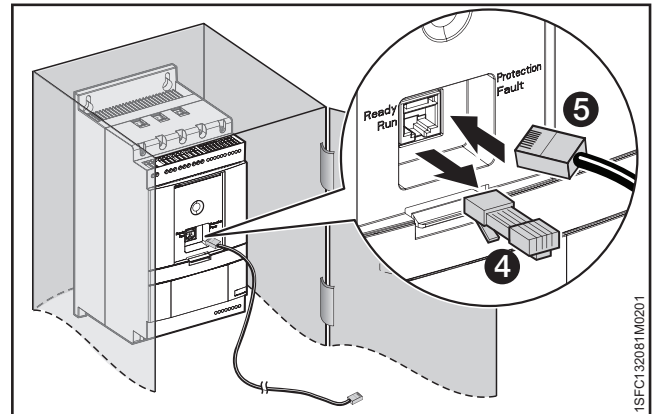

Figure 4.10
3. Remove the RJ45 plug see **4**. Connect one end of the network cable to the network port on the front of the Softstarter **5** in **Figure 4.10**.